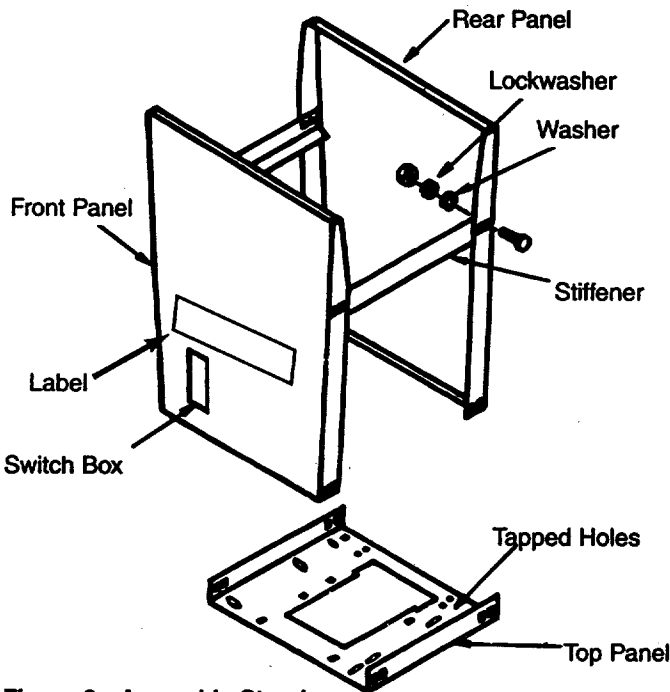

Figure 2 - Assemble Stand
- Attach front and rear panels using the carriage bolts, washers, hex nuts and stiffeners (see Figure 2).